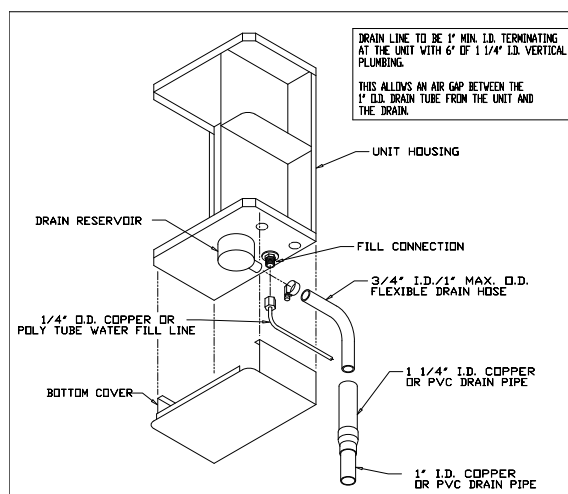

Figure 4
To make the necessary connections for water fill and drain, the following steps are required: (refer to figure 4 for locations)
4. Insert the other end of the tube into a minimum 6" vertical length of the 1-1/4" minimum I.D. drain line. The balance of the drain line should be 1" I.D. minimum with a minimum 1/8" per foot slope. (See Figure 4)